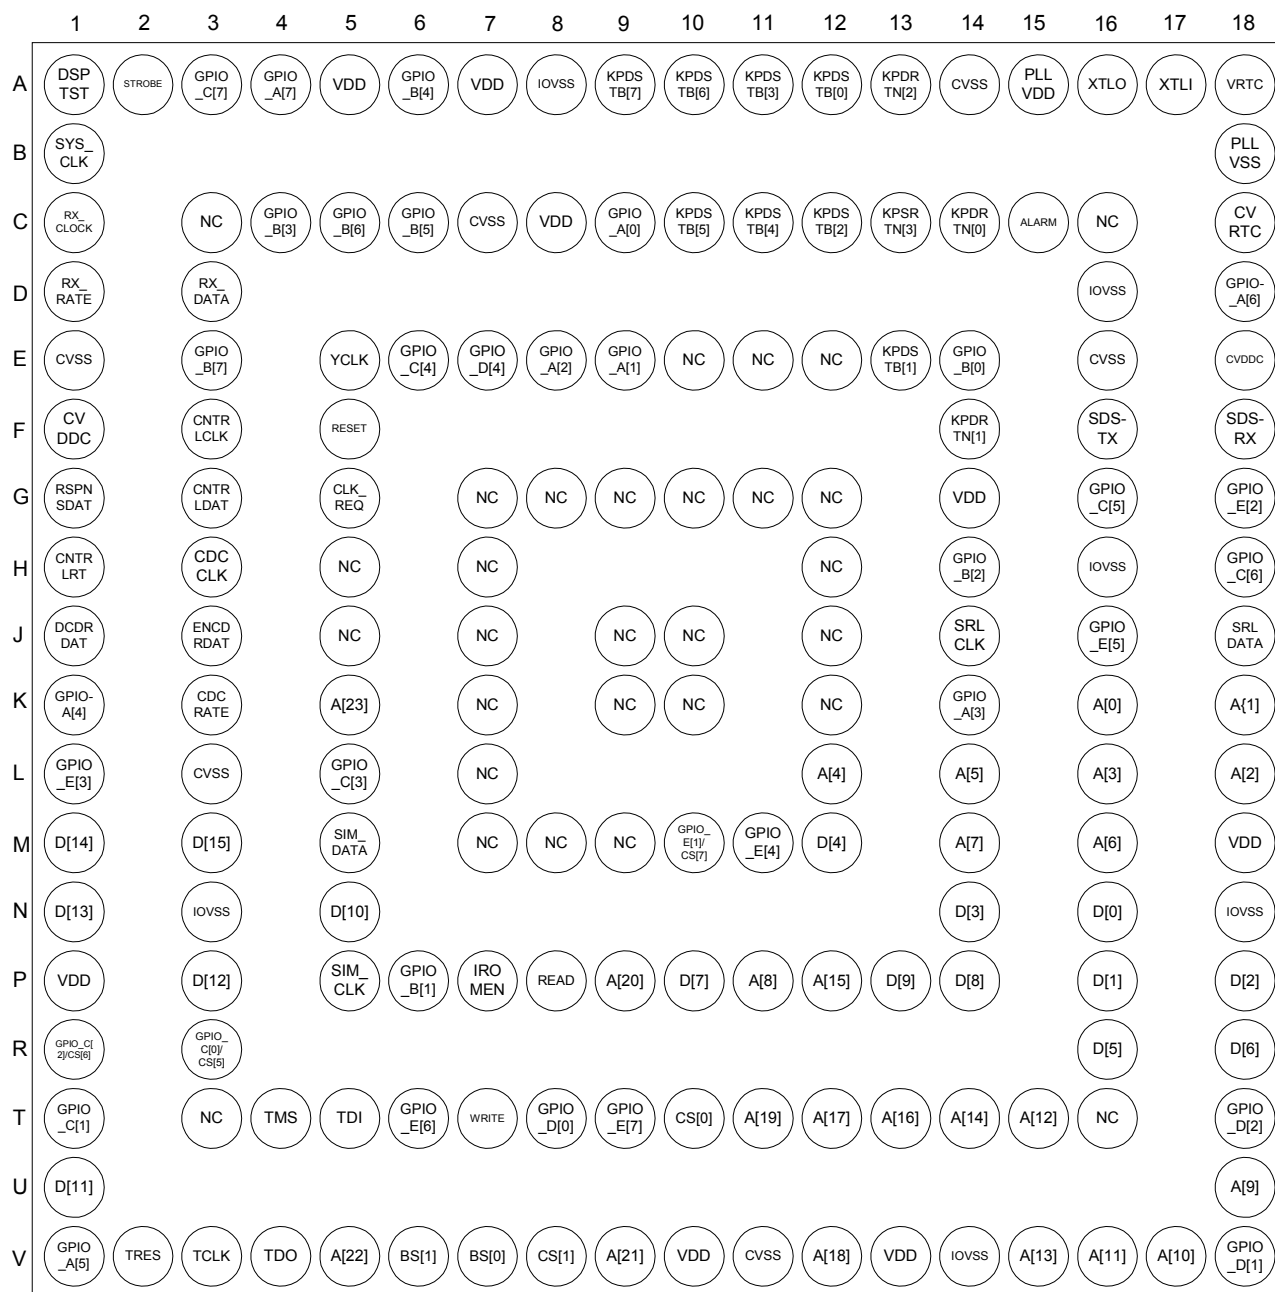

Figure 3. CX80501-32 and CX80502-34/-36 Pinout Diagram (Top View)
- The CX80501-32 is a 10 x 10 mm, 0.5 mm pitch, 180-pin FPBGA. The CX80501-32 supports up to Class 8 GPRS operation. The pin configuration is shown in Figure 3. The signal pin assignments and functional pin descriptions are provided in Table 3.
- The CX80502-34/-36 is a 10 x 10 mm, 0.5 mm pitch, 180-pin FPBGA. The CX80502-34/-36 supports up to Class 10 GPRS operation. The pin configuration is shown in Figure 3. The signal pin assignments and functional pin descriptions are provided in Table 3.